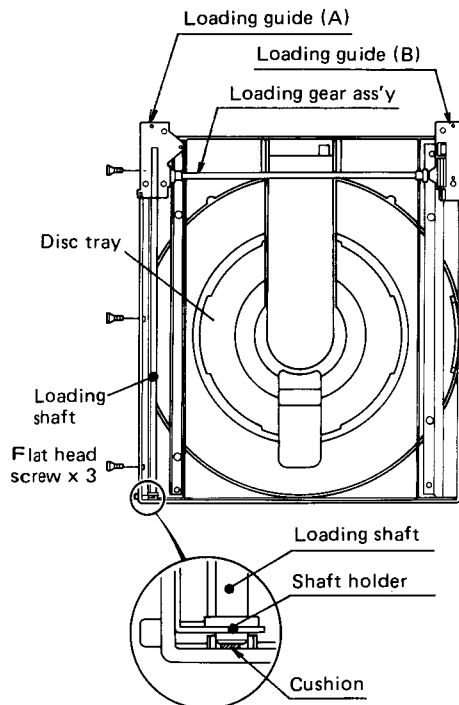

Fig. 4-1
10. Install the loading shaft, loading guide (A), shaft holder and cushion to the disc tray securely by three flat head screws. (Fig. 4-1)